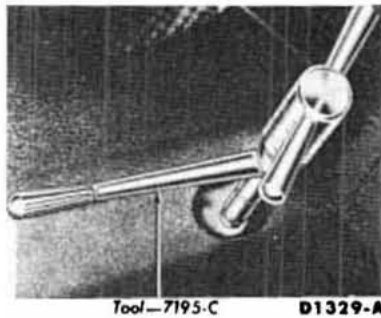

Fig. 46—Adjusting Rear Band—FX-MX
3. Loosen the rear band adjusting screw lock nut with the tool shown in Fig. 46. Using the T-handle portion of the tool, tighten the adjusting screw until the wrench overruns.